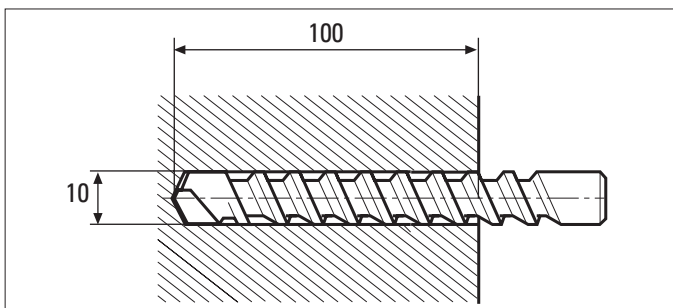

Fig. 2
- ⇒ Drill the auxiliary holes 10 mm diameter and 100 mm deep (Fig. 2).